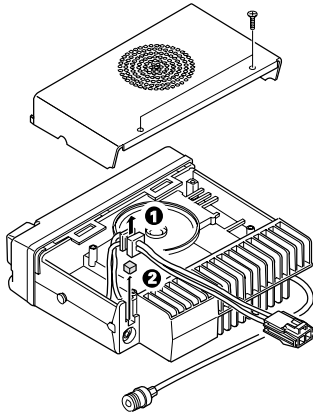
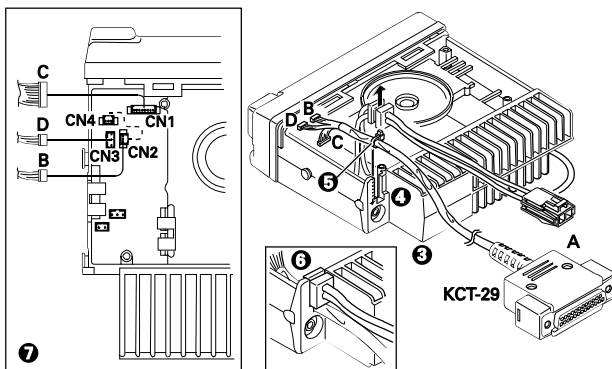

Fig. 5
Fig. 6
2. Lift the DC cord bushing (❶) from the chassis.
3. Remove the pad as shown in Figure 5 (❷).
4. Insert the KCT-29 cable (❸) into the chassis (❹). The wire harness band (❺) must be inside the chassis.
5. Replace the DC cord bushing (❻).
6. Connect the KCT-29 to the TX-RX unit (A/2) as shown in Figure 6 (❼).